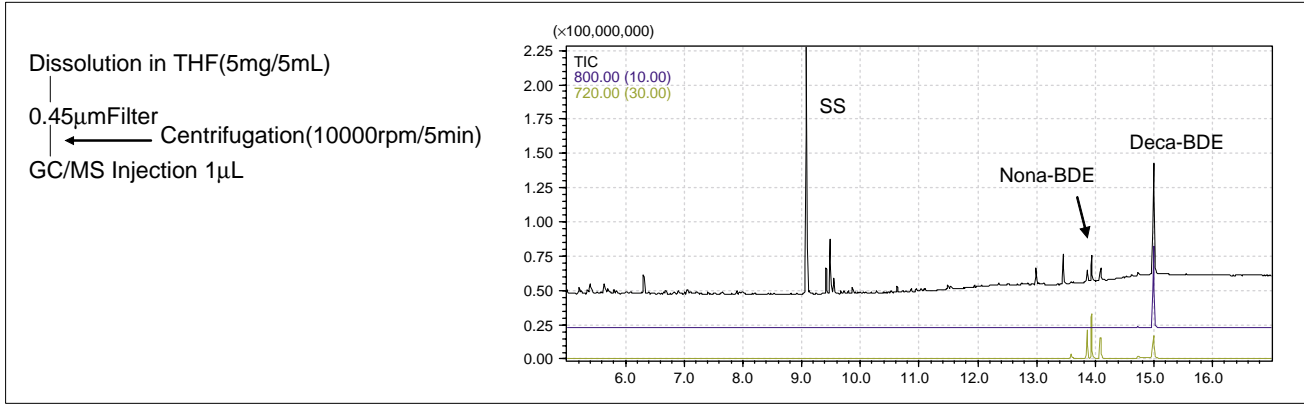

Fig.3 Mass Chromatogram of PS Extract
■ Analysis of PBDEs in Polystyrene Sample (1)
A polystyrene (PS) plastic sample containing 5% of Deca-BDE was dissolved in THF for analysis. The result is shown in Fig. 3. Nona-BDE is included as an impurity in the Deca-BDE.